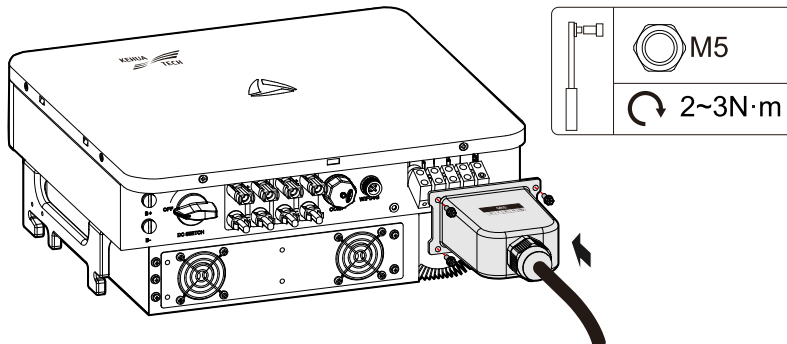

Figure3-25 Fasten the AC output waterproof cover
- Step 3 After wiring, fasten the AC output waterproof cover to the inverter by equipped four stainless steel combination bolt M5\*12 and then fasten the external AC output nut, as shown in Figure3-25.